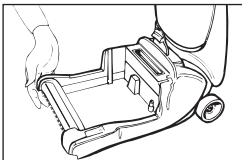

Fig.6./6
7. Replace the dirty water tank by hooking the front of the dirty water tank into the base of the cleaner, making sure the the front of the dirty water tank is resting on the base. The dirty water tank has two (2) tabs on the underside which MUST latch on to the underside of the base of the cleaner. Failure to install the dirty water tank correctly will result in poor dirt water pick up (Fig.6/7).